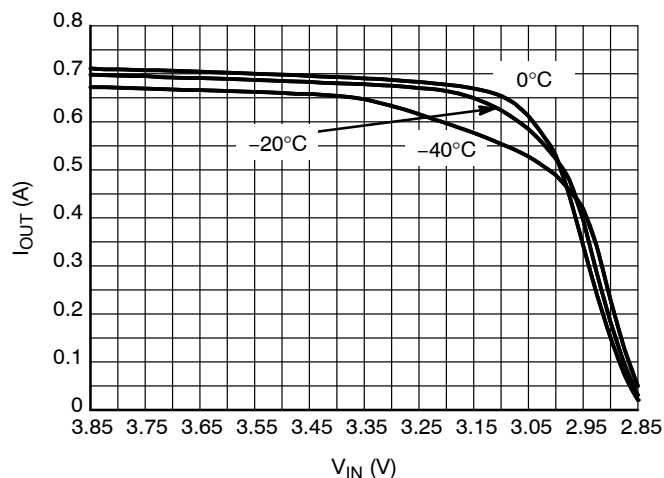

Figure 18. Output Current Capability for the 2.85 V Version
26. For output current capability for  $T_A < 0^{\circ}\text{C}$ , please refer to Figures 18 to 22.